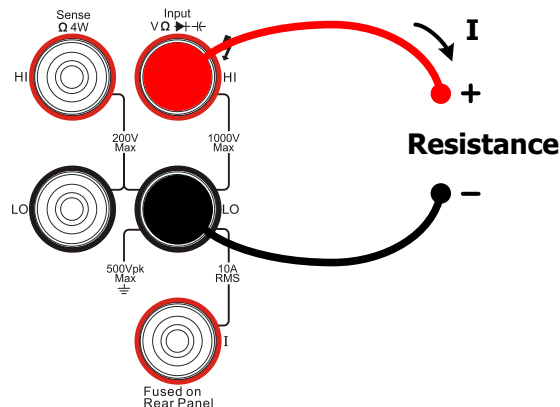

Figure 2-17 Sketch map for connecting
1. Connecting the red lead (Test leads) to Terminal Input-HI (tested circuit) and black lead to Terminal Input-LO as shown in Figure 2-17.